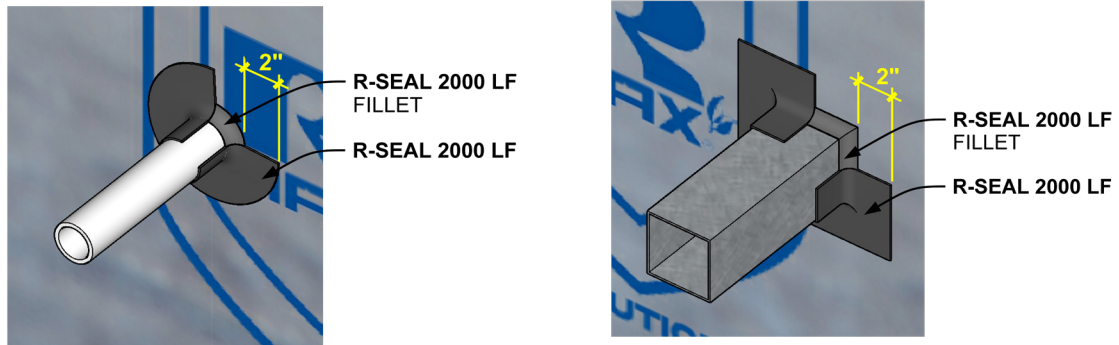

Figure 10
N. Throughwall Penetrations: Apply a bead of R-SEAL 2000 LF at penetration/insulation transition and tool to form a fillet. Apply and tool additional R-SEAL 2000 LF on penetration object and aluminum facer to ensure continuous flashing layer that extends a minimum of 2" onto each surface at a minimum 30mil wet gauge thickness. **Reference Figure 10.**